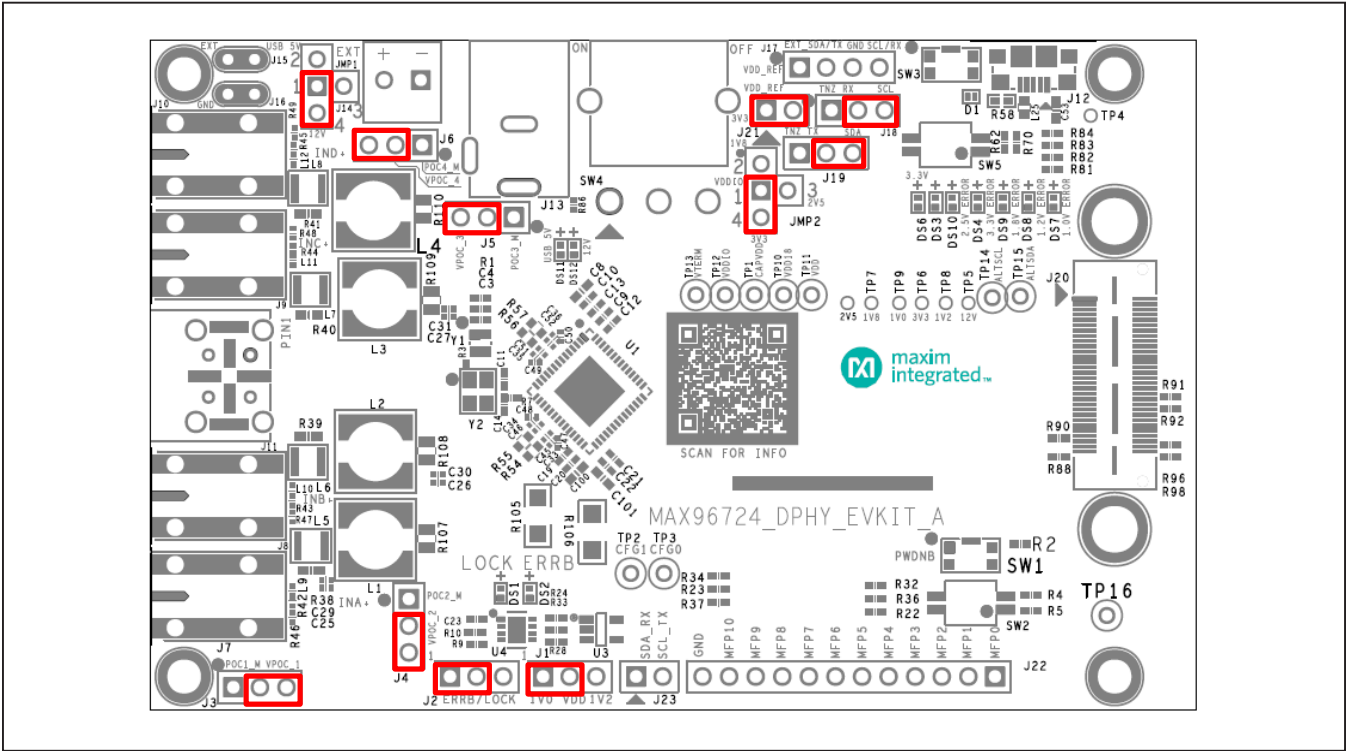

Figure 4. MAX96724 DPHY EV Kit Default Jumper Positions
- 4) Verify all jumper positions on the PCB are properly set to meet the requirements of the application. Figure 4 shows the possible jumper positions for various configurations. The default jumper settings place the device under test (DUT) into the I²C mode, selects 3.3V as the VDDIO voltage and 1.2V as the VDD voltage, and selects the board to be powered by the 12V DC barrel jack.